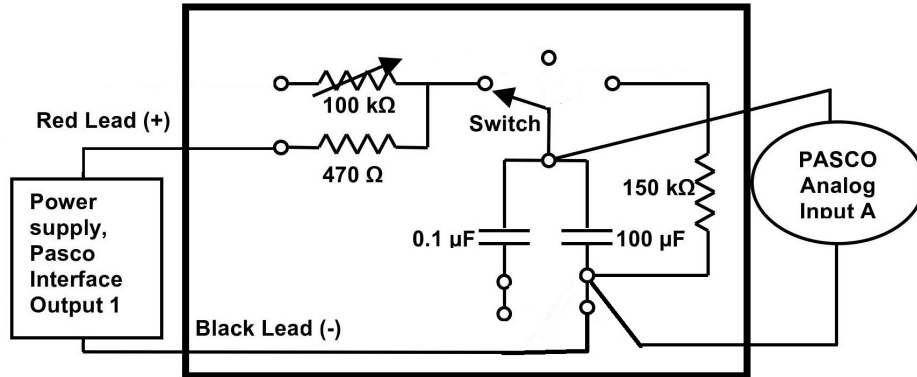

Figure 4.3: Circuit for session 1. This is currently connected to the rheostat.
1. Turn the wooden board over to reveal the circuit Fig. 4.3. There are actually two circuits here, one consisting of a  $100\text{k}\Omega$  rheostat (variable resistor) and the  $100\mu\text{F}$  capacitor, the other consisting of a  $470\Omega$  resistor and a  $0.1\mu\text{F}$  capacitor. We will not use the  $0.1\mu\text{F}$  capacitor, or the rheostat.
2. Connect the Output 1 of the PASCO 850 Universal Interface to the wooden board's terminals as well as the Analog Input A in order to complete the circuit as shown on Fig. 4.3. The  $100\mu\text{F}$  capacitor can now charge through the  $470\Omega$  resistor (when in the "charge" state) and discharge through the  $150\text{k}\Omega$  resistor (when in the "discharge"
1. Connect the circuit as shown in Fig. 4.3.
11. **Answer the following questions in the results section of your log book.** Should all the time constants be the same or different? Why and why not? What would happen if we had used the rheostat instead of the  $470\Omega$  resistor in Fig. 4.3 and used a DC voltage source (with the On/Off switch on the board) instead of a wavefunction source: would we have the same time constant for both charging and discharging? What would